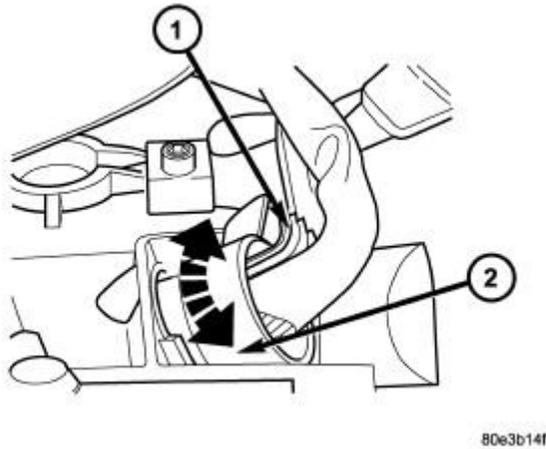

Fig. 241: Removing 13-Pin Plug Connector
3. Disconnect 13-pin plug connector (1). Refer to **Fig. 241**. Turn bayonet lock of the adapter plug (2) anti-clockwise.